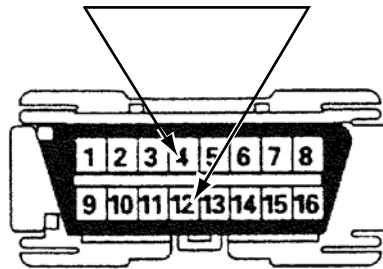

Figure 10-25 16-pin connector jump wire
- Jump pins 4 and 12 as shown in Figure 10-25.